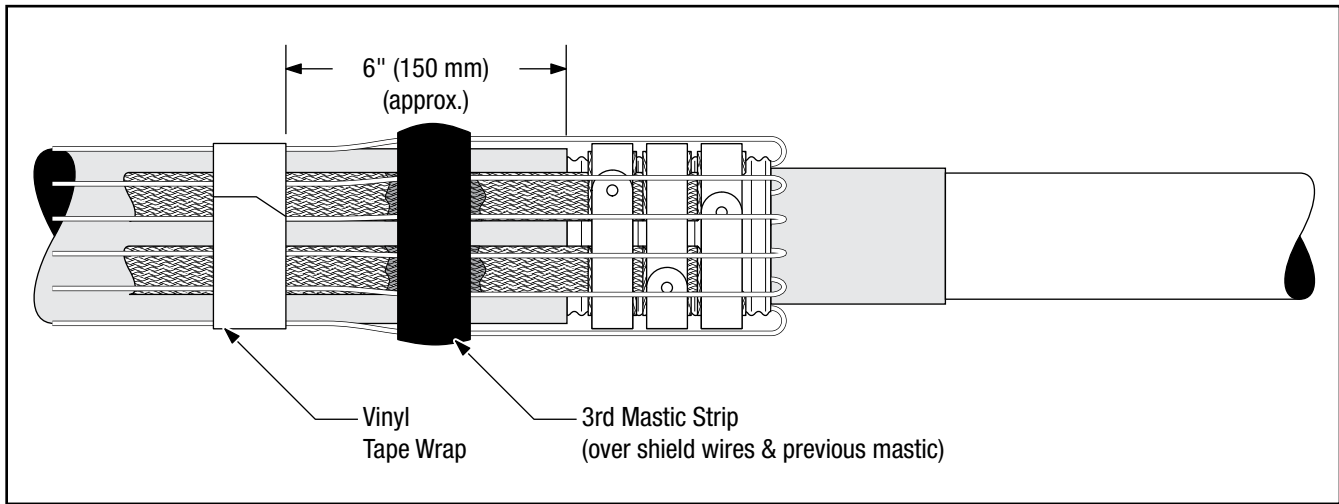

Figure 9
- 2.7 Cut a third length of sealing mastic long enough to wrap over wires, applied mastic and solder blocks. Remove the release liner from the mastic and, using light tension, apply mastic over the shield wires and previously applied mastic. (*Figure 9*)
- 2.8 Secure the shield wires and the two tails of the ground braid assembly to the cable jacket approximately 6 inches (150 mm) from the cable jacket edge with several wraps of vinyl tape. (*Figure 9*)